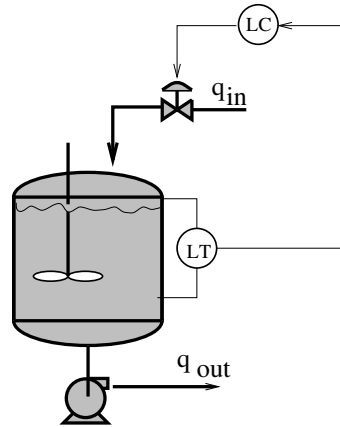

Figure 1.2 The tank system in Problem 1.3.
- 1.3** A tank and its equipment is shown in Figure 1.2. The level in the tank should be controlled. This is done using a controller, a transmitter (= sensor), and an actuator. Identify the controller, the transmitter, and the actuator in the figure. What is the manipulated process variable, the measured process variable, and the controlled process variable?